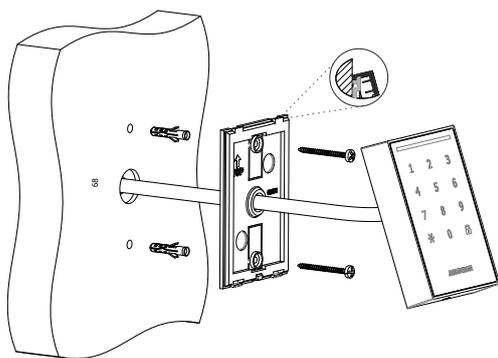

Fig. 2: Keypad installation
3. Align the keypad on the top edge of the mounting pad (Figure 2) and click it in.
4. Then secure the keypad with the locking screw (4).